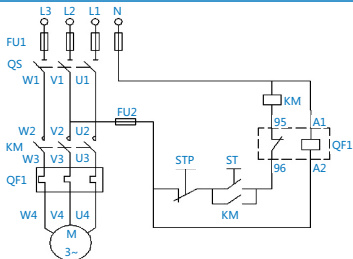
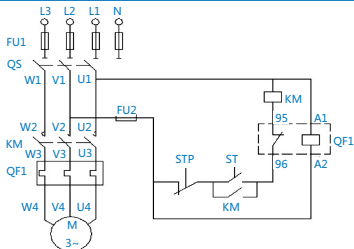

Figure 2 Wiring Diagram of the Protector with the Control Power Supply Voltage of AC220V/AC240V
Figure 3 Wiring Diagram of the Protector with the Control Power Supply Voltage of AC380V
3.2 Wiring diagram: See Fig. 2 ~ Fig. 3.